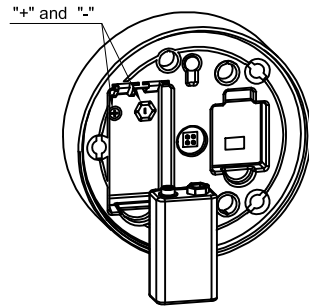

Fig. 11
5. Place the cable in the groove as shown. (Fig. 11).